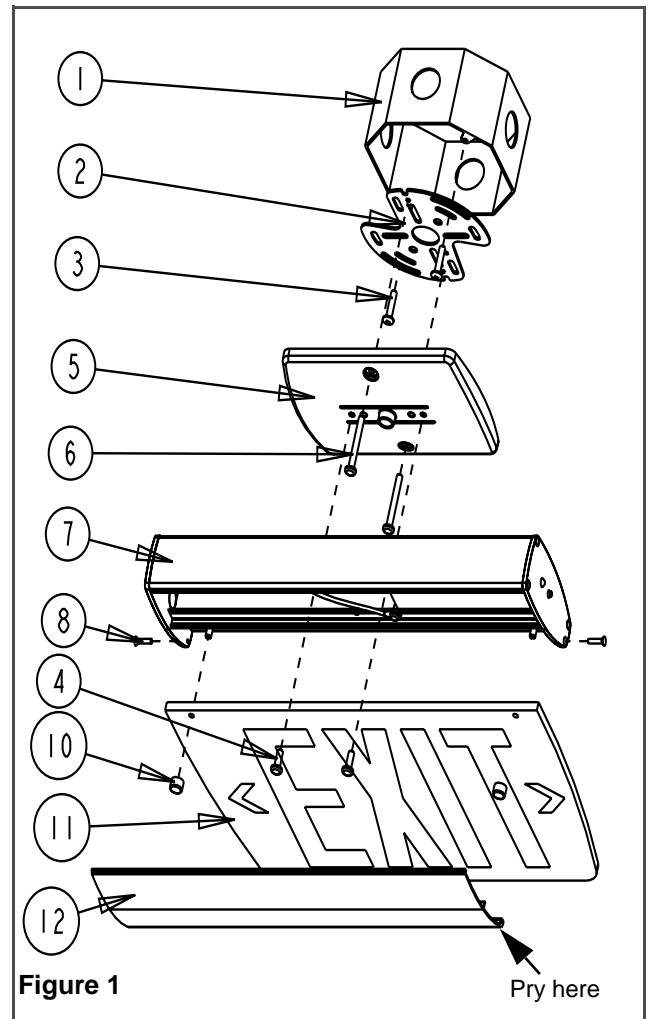

Figure 1
4. Unsnap cover (12) by using your fingers, lift the bottom of the cover and remove (if the cover is too difficult to open gently pry the cover using a flat head screw-driver at the point indicated in fig.1).
#### Wall Mount (See Figure 1)
4. Pour ouvrir l'enseigne, soulever le couvercle. Si le couvercle est trop difficile à ouvrir, utiliser un tournevis plat et soulever au point indiqué sur la figure 1).
#### Montage mural (voir figure 1)